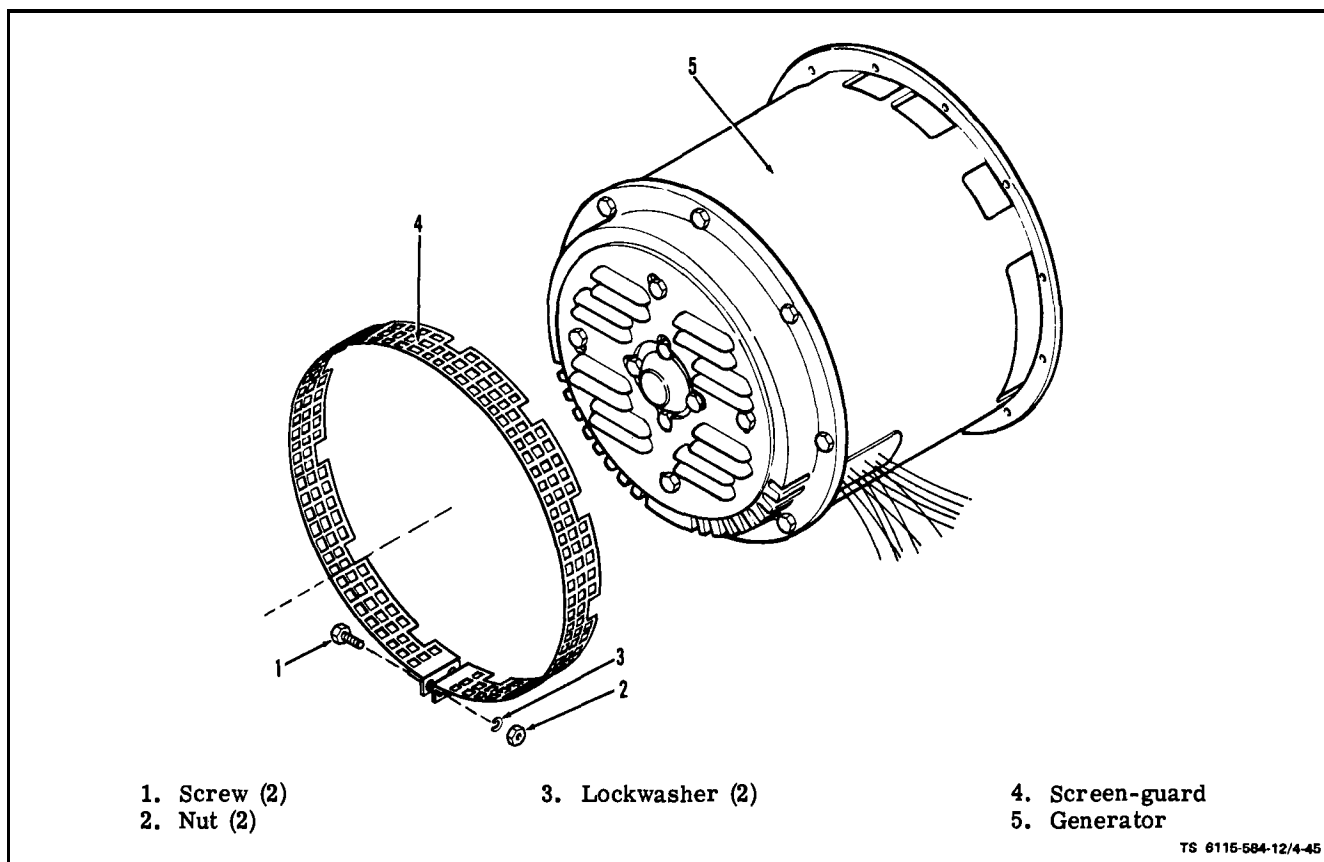

Figure 4-45. Generator Screen-Guard
b. Remove (see figure 4-45). Remove two screws (1), lockwashers (3), and nuts (2) holding screen-guard (4) in place and remove screen-guard.
d. Install. Place serviceable screen-guard in position over openings in generator stator-housing assembly (5). Tighten screen-guard (4) in position with two screws (1), lockwashers (3) and nuts (2). On ASK equipped generators, install ASK cover assembly (para 5-3).